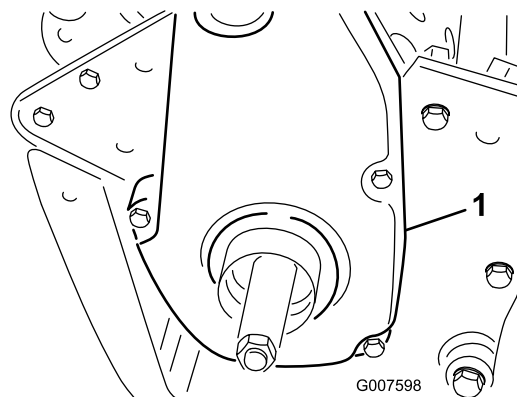

Figure 37
1. Remove the belt-cover mounting fasteners and the belt cover to expose the belt (Figure 37).